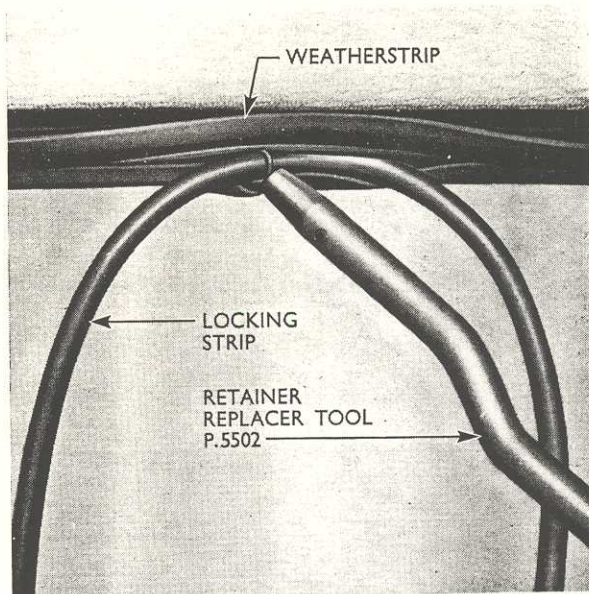

Fig. 10
10. Lubricate the weatherstrip locking rubber and thread it halfway through the retainer replacer tool. From inside the car, insert this in the weatherstrip centrally above the windscreen (see Fig. 10).
14. Lubricate the weatherstrip locking rubber and thread it half-way through the retainer replacer and from inside the car insert this in the weatherstrip centrally above the rear window (see Fig. 10).
11. Lubricate the weatherstrip locking rubber and thread it half-way through the retainer replacer tool and insert this in the weatherstrip centrally above the rear window (see Fig. 10).